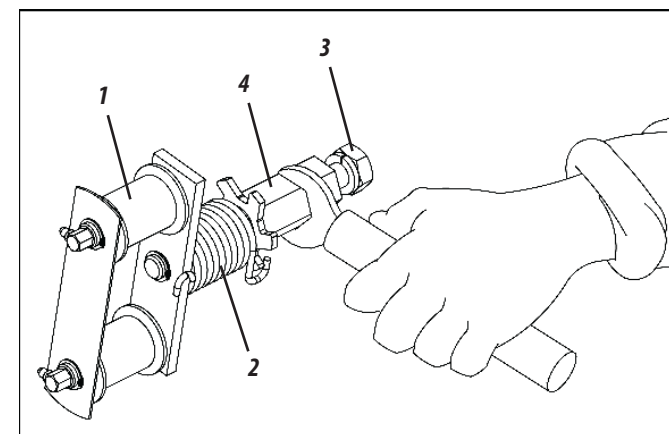

Figure 74
12 - The tensioner (1) is provided with a torsion spring (2) for increased flexibility. If increased pressure in the tensioner is necessary, release the inner nut (3) from it and rotate the shaft (4) moving the spring coupling (2) to the other tooth of the shaft rosette and tighten again the inner nut (3), as shown in Figure 74.